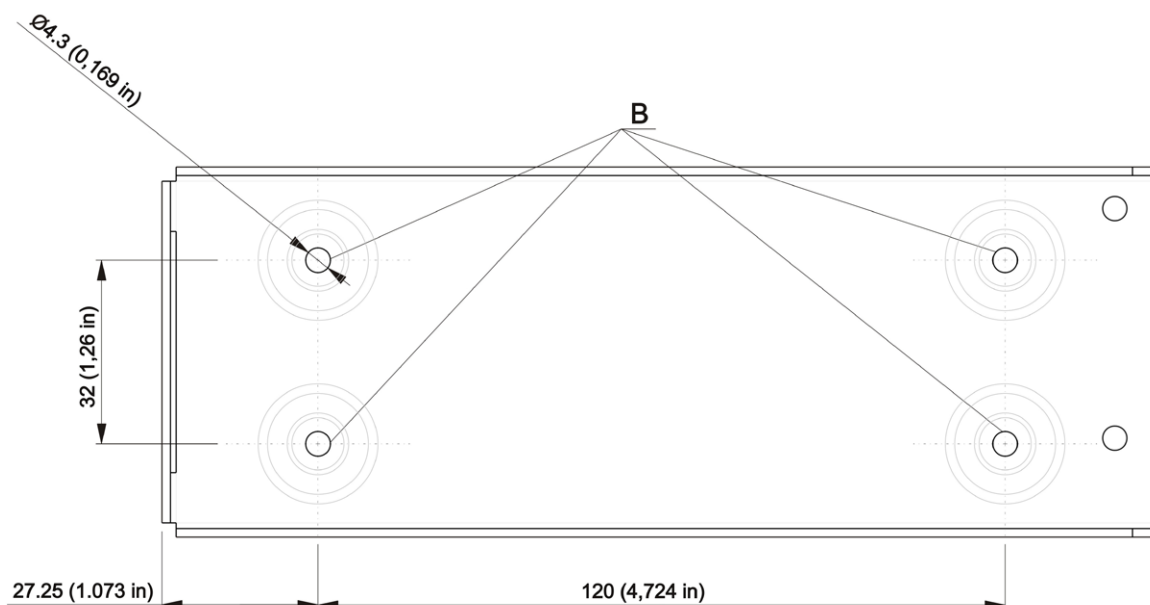

Figure 2-12: MK6201-(010) mounting slot fixing holes, dimensions in mm and (inches)
The necessary dimensions for installation using the mounting kit MK6201-(010) are given in Figure 2-12 (dedicated holes marked with "B" letter).